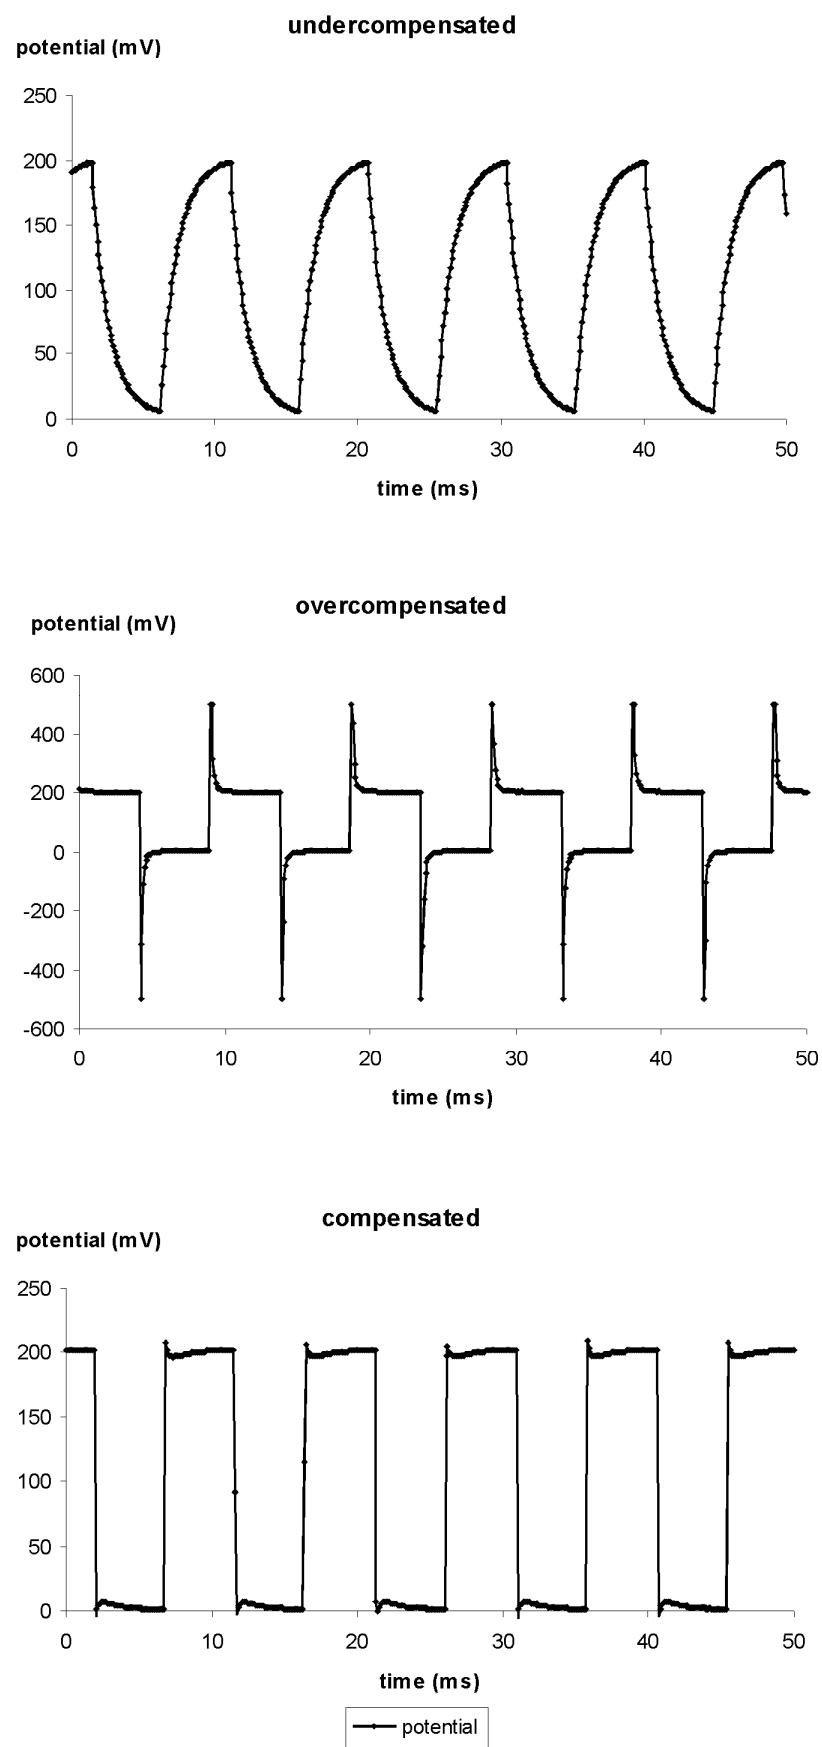

Figure 9: Tuning of the capacitance compensation using a  $100\text{ M}\Omega$  resistor
With the cell model connected or the electrode in the bath the CAPACITY COMP. control is turned clockwise until there is no capacitance artifact on the POTENTIAL OUTPUT (see Figure 9).
- ❑ Compensate the input capacitance as shown in Figure 9 using the CAPACITY COMP. potentiometer (#17, Figure 1).
Figure 9 illustrates the capacitance compensation procedure using a  $100 \text{ M}\Omega$  resistor that represents the electrode. The pulses were generated using the automated electrode resistance test circuit of the BA-03X. The upper diagram shows an undercompensated capacitance. In the diagram in the middle the capacitance is slightly overcompensated and in the lower diagram it is well compensated.
- Immerse the electrode into the bath (not in a cell) as deep as necessary during the experiment. Test the capability of the electrode to carry current (see chapter 7.4), compensate the potential offset (see chapter 7.2), measure the electrode resistance (see #33, chapter 3.2) and compensate the input capacitance (see chapter 7.3 and Figure 9).